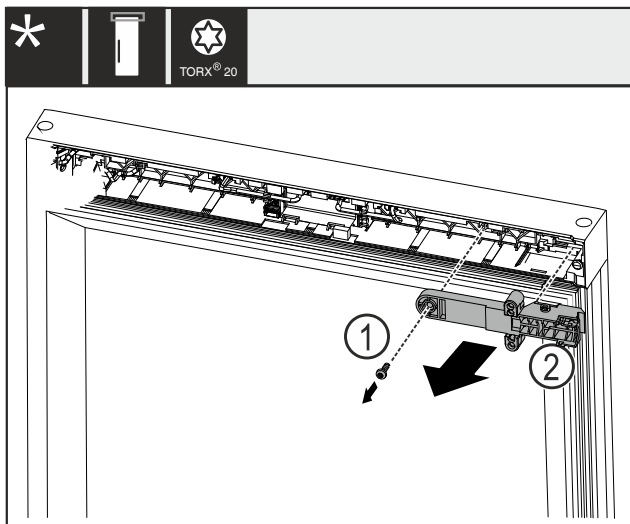

Fig. 22
- ▶ Remove the screw Fig. 22 (1).
- ▶ Remove the lock retainer Fig. 22 (2).